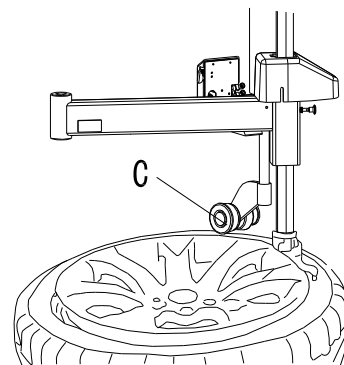

Fig 11
3. Nearby demounting/mounting head, insert lift lever **N** into tyre, use lift lever to lift bead upon knob of demounting / mounting head. Manually rotate roller C to inner side, pull handle D down, make roller C to press rim, keep 3-5mm gap between demounting/mounting head and rim, make sure demounting/mounting head not damage rim, rotate turntable, demount tyre upper bead ( Fig 11)